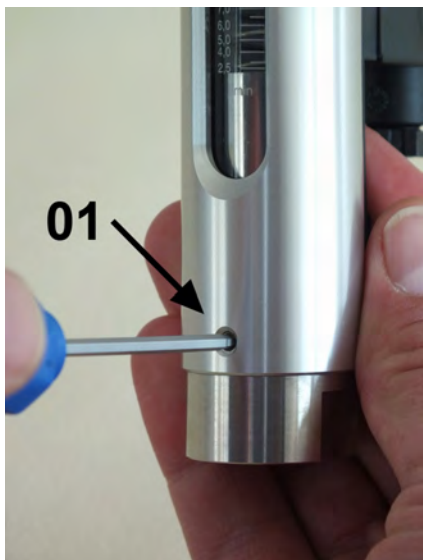

Fig. 47: Secure the process connection (inlet)
- 9.** ➤ Secure the inlet process connection to the device housing with 3 hex socket screws (Fig. 47/01), observing the proper torque.